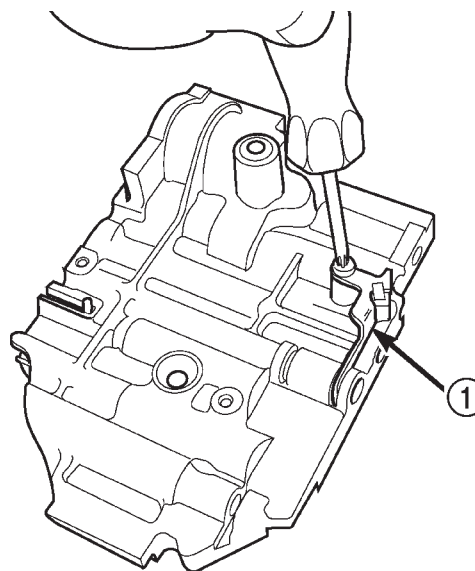

Fig. 134 Remove Vent Reservoir Check Valve Retainer
(16) Remove the vent reservoir check valve retainer (Fig. 134).